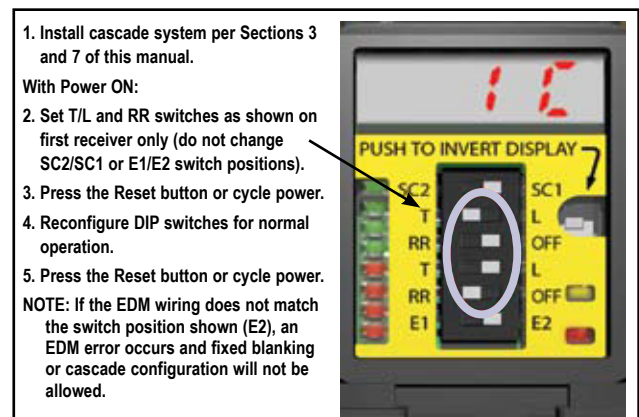

Figure 7-7. DIP switch configuration to enable cascade installation
- Set the third and fourth DIP switches (the second T/L and RR) both to the right (L and OFF position); see Figure 7-7.